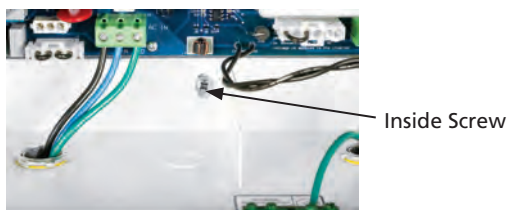

Figure 3-3 Inverter's Inside Screw Below the Power Board
6. Locate the inverter mounting hole below the power board (see Figure 3-3). Insert the mounting screw through the inverter and tighten securely.